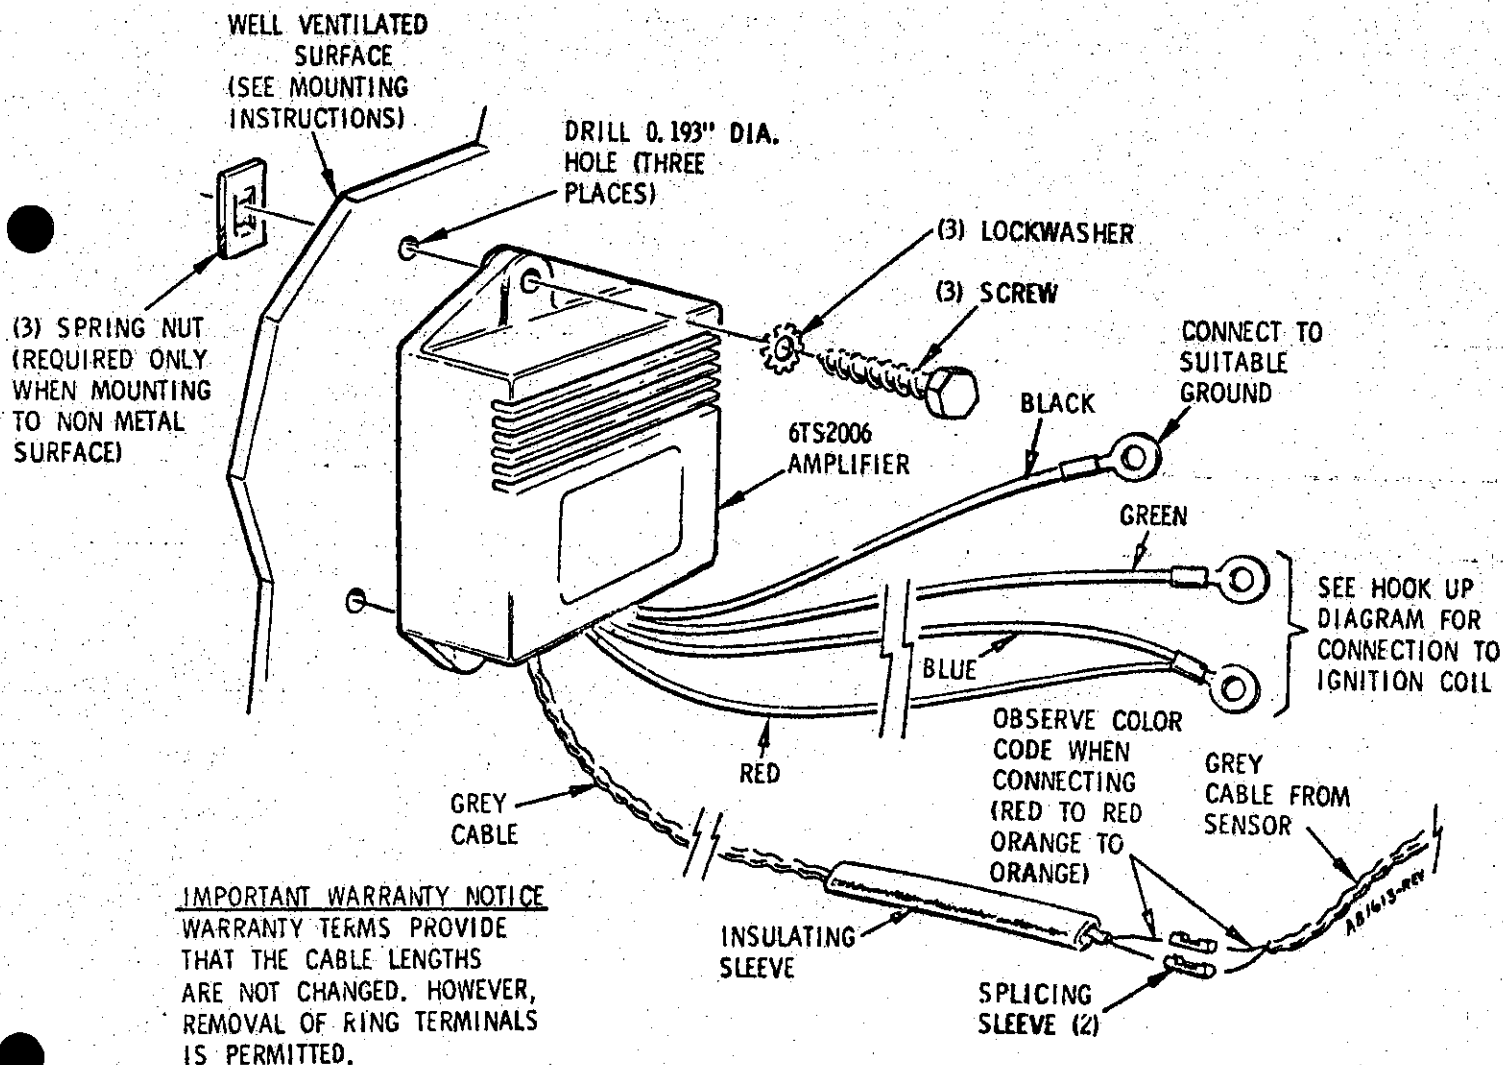

FIGURE 1
AMPLIFIER INSTALLATION (Figure 1)
4. Connect black wire to an existing bolt that is grounded to vehicle. If amplifier is mounted on metal panel or surface that provides good ground, the black wire can be connected to one of the amplifier mounting screws. See Figure 1.